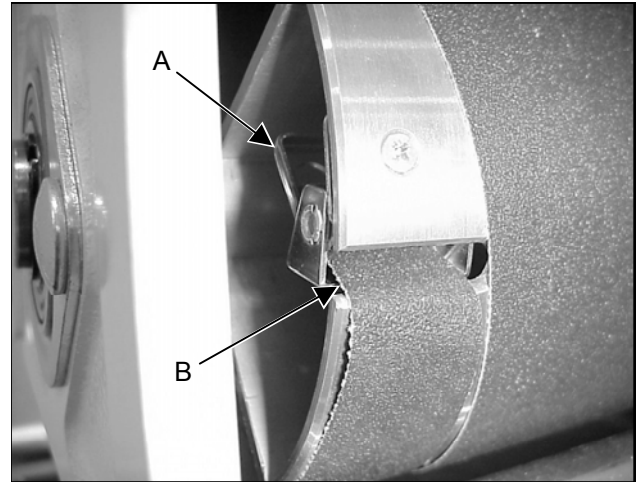

Figure 9
3. Squeeze the fastener lever (Figure 9, Item A) on the outboard end of drum, and insert the tapered end of the abrasive (Figure 9, Item B) so that it uses most of the width of the slot. Release the fastener lever to securely hold the strip end to the fastener.
4. The square edge of the abrasive strip should follow the edge of the drum, as shown in Figure 9.